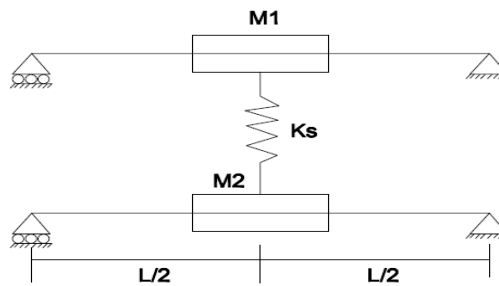

Figure 3
8. For the system shown in Figure 3, write the frequency equation in terms of M_1 , M_2 , E_1 , I_1 and K_s . Neglect the mass of the beams. [14 M]